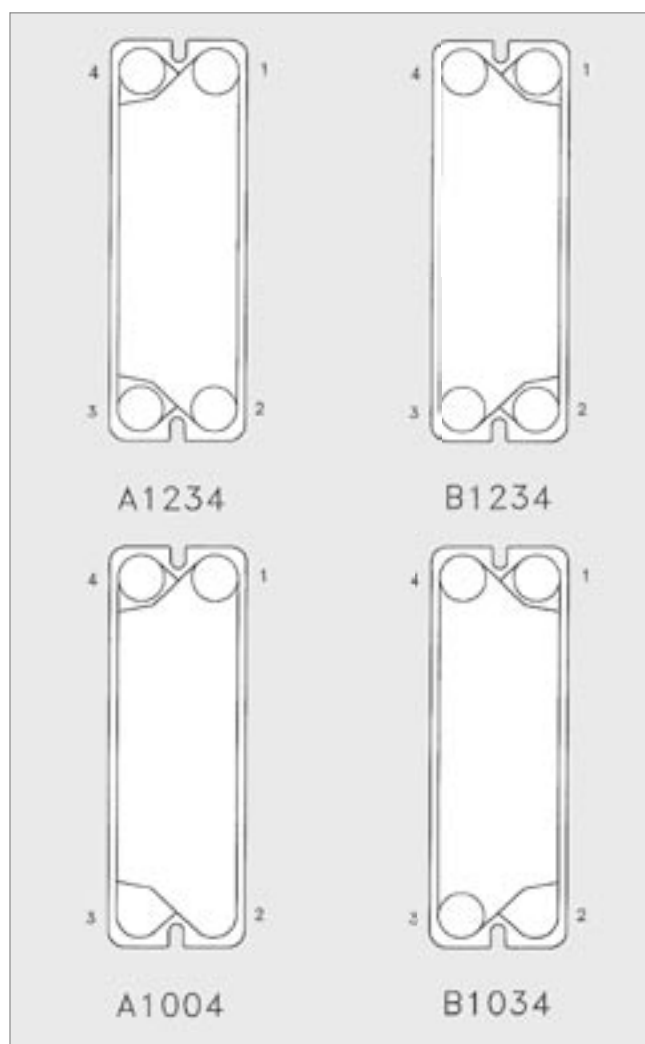

Figure 14
As shown in Figure 14, the pierced holes at the corners of the plate are designated as: 1 for upper right, 2 for lower right, 3 for lower left and 4 for upper left when facing the gasketed side of the plate. Plates 1 and 2 in Figure 14 are represented as A1234 and B1234 respectively. Plates with all four holes pierced can also be designated with a blank space or an \*. Unpierced ports will be represented as a zero (0). For example, Plate 3 is represented by a A1004 since there are no holes at position 2 and 3. Table 8 shows **A and B equivalents when an “A” plate is rotated to become a “B” plate.**